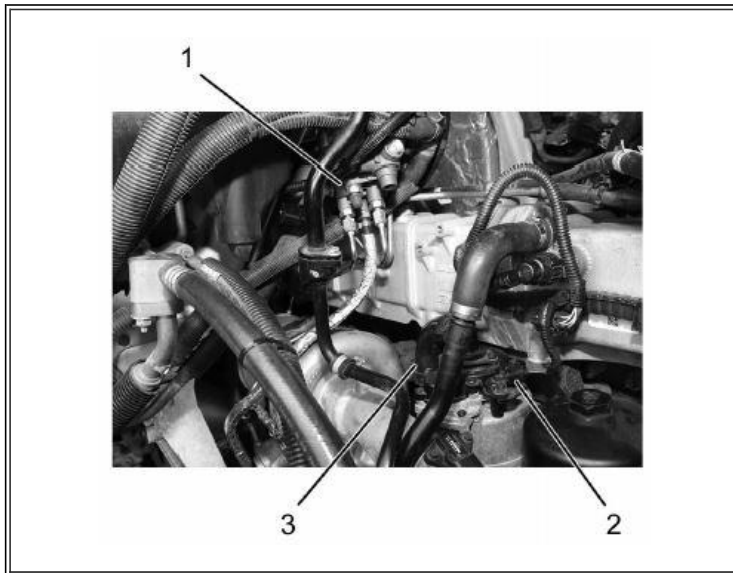

Figure 15: Air Control Valve
7. Connect CCOS housing sensor connector (Figure 15, Item 2).
8. Connect CCOS housing outlet hose (Figure 15, Item 3) on CCOS housing.
9. Secure ACV (Figure 15, Item 1) with three mounting bolts.